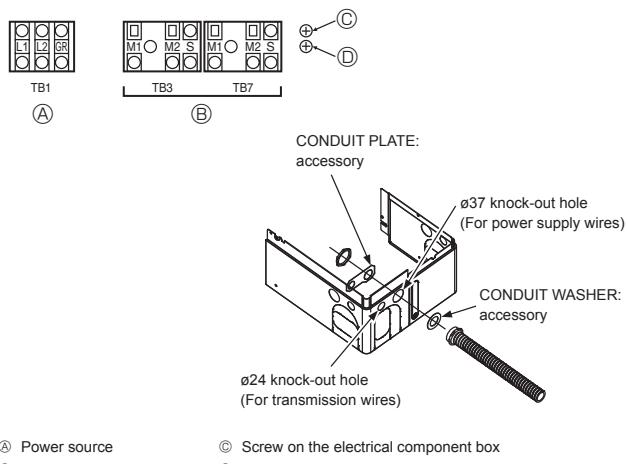

Fig. 6-1
6.2. Control box and connecting position of wiring (Fig. 6-1)
- Connect the branch box transmission line to transmission terminal block (TB3), or connect the wiring between outdoor units or the wiring with the centralized control system to the centralized control terminal block (TB7). When using shielded wiring, connect shield ground of the branch box transmission line to the screw (Ⓒ or Ⓡ) and connect shield ground of the line between outdoor units and the central control system transmission line to the shield (S) terminal of the centralized control terminal block (TB7) shield (S) terminal. In addition, in the case of outdoor units whose power supply connector CN41 has been replaced by CN40, the shield terminal (S) of terminal block (TB7) of the centralized control system should also be connected to the screw (Ⓒ or Ⓡ) using attached lead wire.